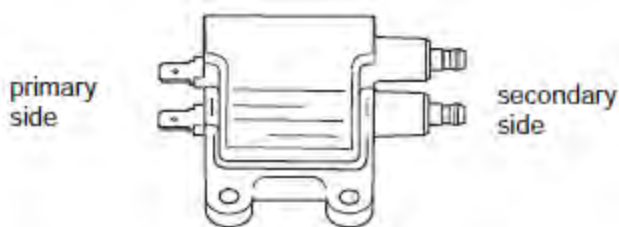

FIGURE 16-27
4. Remove all four engine ignition coil packs enough to gain access to the primary side of the coil pack (Figure 16-27). Remove spiral wrap as necessary.